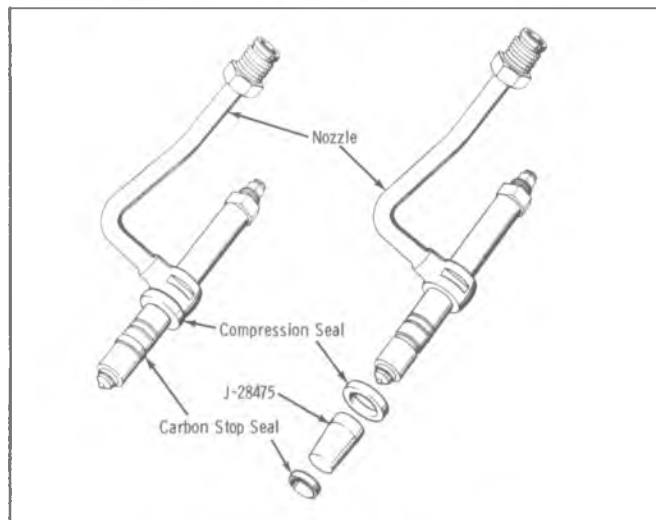

Fig. E-36—Installation of Nozzle Seals
1. If a nozzle is to be reinstalled after removal, a new compression seal and carbon stop seal must be installed after removal of the used seals. See Fig. E-36 for seal installation.